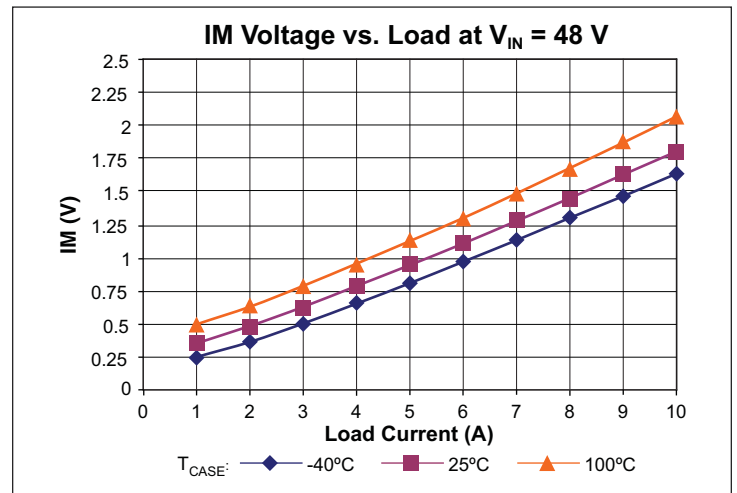

Figure 8 — IM voltage vs. load
**Current Monitor (IM)** pin provides a voltage proportional to the output current of the VTM module. The nominal voltage will vary between 0.38 V and 2.03 V over the output current range of the module (See Figures 8–10). The accuracy of the IM pin will be within 25% under all line and temperature conditions between 50% and 100% load.